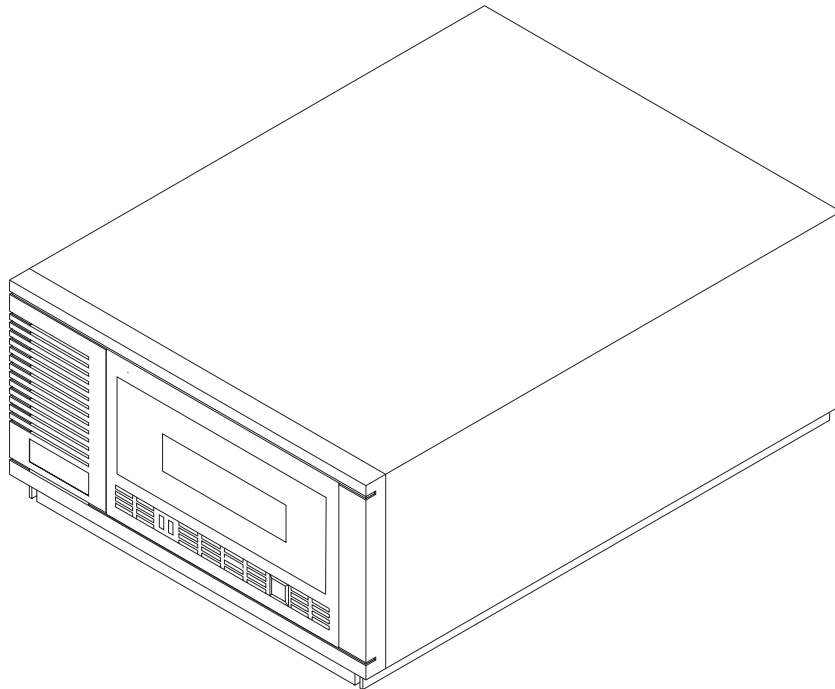

Figure 1-1 Tabletop CTS (EXB-8200 shown)
- Figure 1-1** Tabletop CTS (EXB-8200 shown) . . . . . 1-2
The EXABYTE Tabletop 8mm Cartridge Tape Subsystem (Tabletop CTS), shown in Figure 1-1, is a fully integrated tabletop 8mm cartridge tape subsystem. The EXABYTE design integrates a single EXB-8200, EXB-8200SX, EXB-8500, or EXB-8500c CTS into an enclosure containing a fan, a power supply, a Small Computer System Interface (SCSI) ID switch, two SCSI connectors, and a Monitor port.